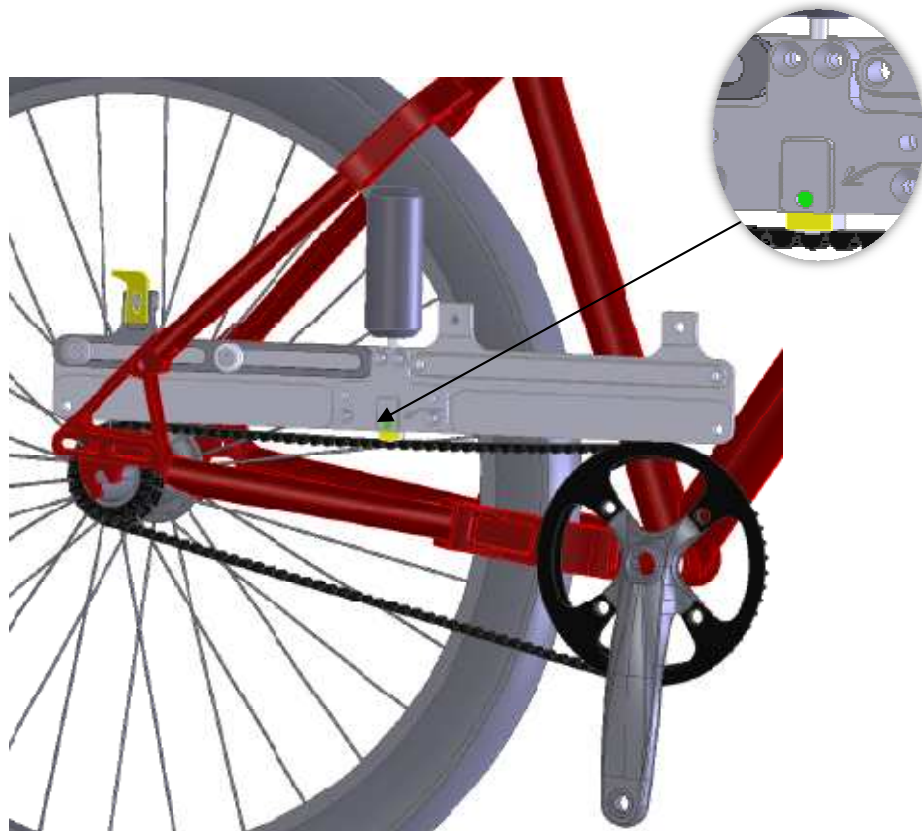

fig10: Correct belt tension. Green array is shown in the indicator opening
-  - The Carbon Drive System is correctly tensioned (fig. 10). There are no tension adjustments necessary. Low wearing and the highest efficiency are accomplished in this array.